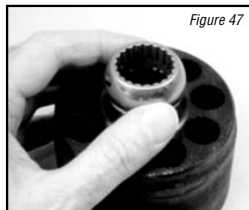

Figure 47
**19** Reassemble the rotating kit assembly by first aligning the splines in the pivot with the splines in the block. Install the pivot on the block assembly pins (see Figure 47).